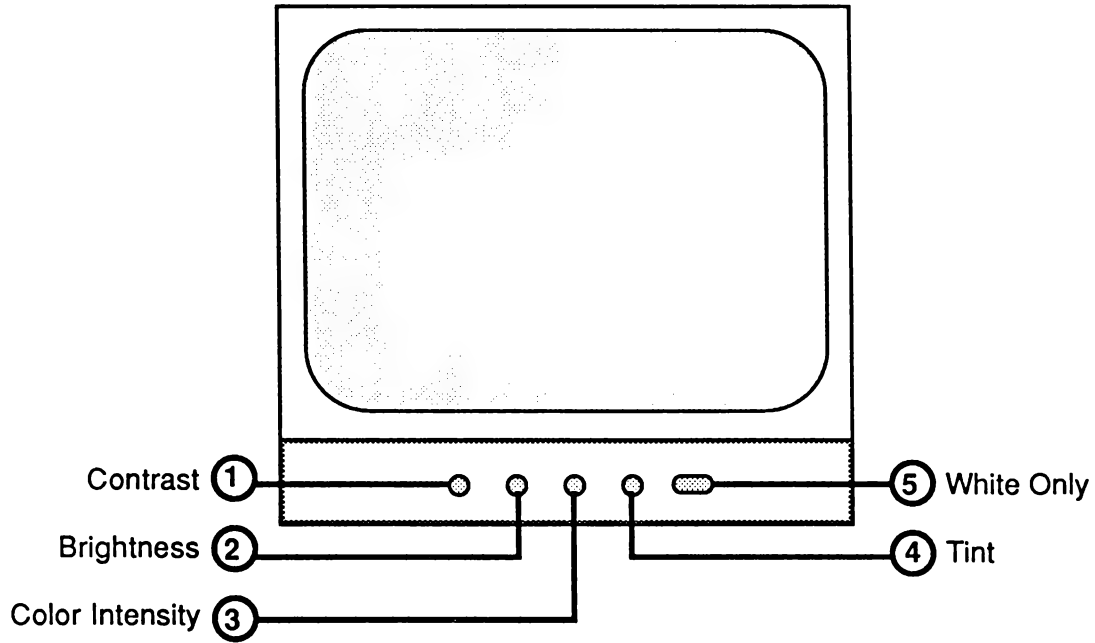

FIGURE 2
5. Turn the **BRIGHTNESS** control (Figure 2, #2) to adjust the visibility of the screen to room lighting conditions.
6. Rotate the **CONTRAST** control (Figure 2, #1) to achieve a good balance between character brightness and screen background.
NOTE: The **COLOR INTENSITY** control (Figure 2, #3), the **TINT** control (Figure 2, #4), and the **WHITE ONLY** switch (Figure 2, #5) have no effect on the text display.